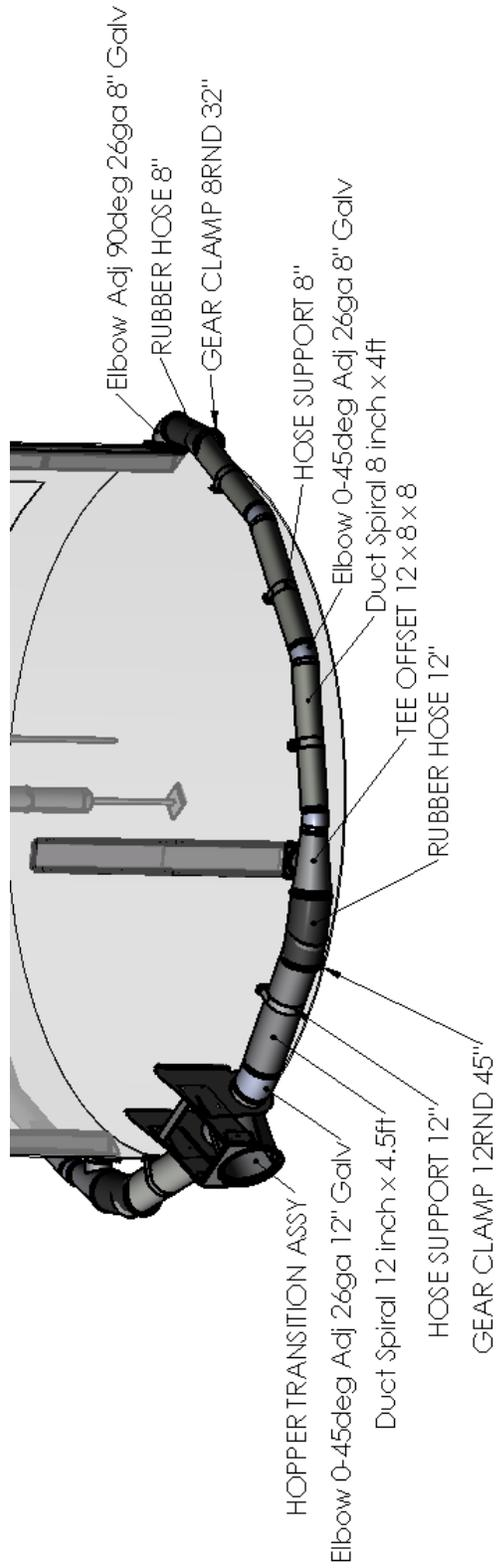

Figure 3.3.5a: Flat Bottom Outside Ducting (4 vertical columns)
1. See Fig 3.3.5a for 4 vertical columns.